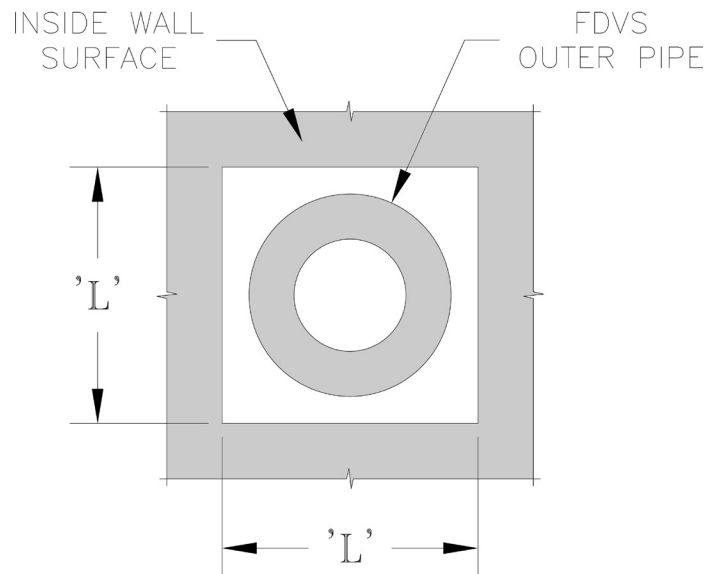

Figure 5-3: Wall Cutout Dimensions
5. After determining the location of the venting system termination, cut the square hole in the wall sized according to "L" dimension in Table 5-2, see Figure 5-3.